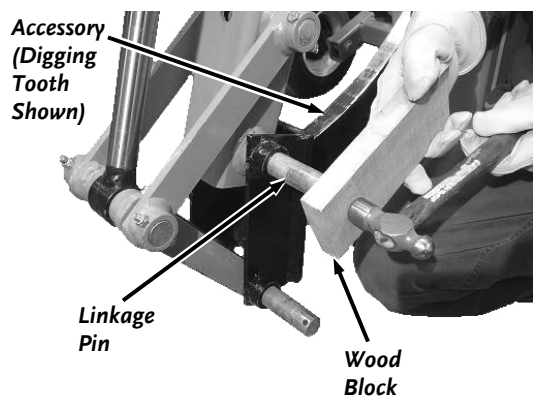

Figure 39
5. Install the two Linkage Pins into the Bucket or Digging Tooth and Linkage (**Figure 39**).